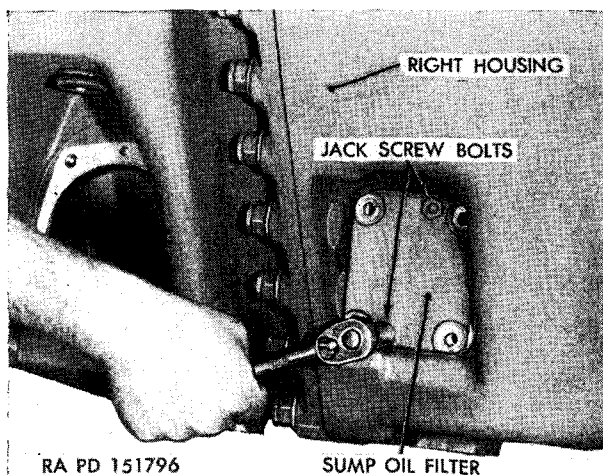
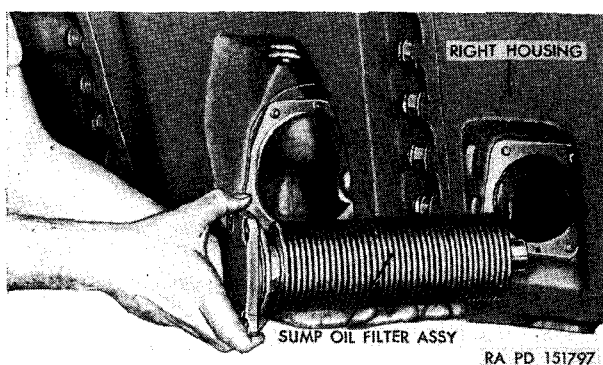

Figure 57. Separating sump oil filter from right housing using jack screws.
Figure 58. Removing sump oil filter.
- (4) *Sump oil filter.* Remove four bolts and washers, using a $\frac{1}{2}$ -inch socket, from the filter. Separate the filter assembly from the right housing, using two of the filter bolts as jack screws (fig. 57). Remove the filter assembly (fig. 58).